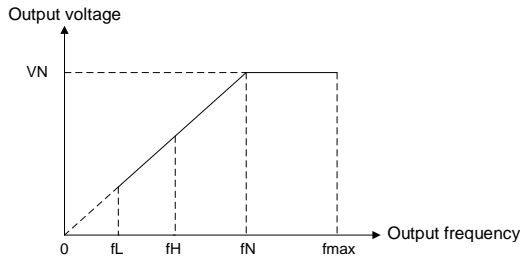

Fig. 6-8
B0-09 upper limit frequency is the user-defined maximum allowable running frequency and represented by  $f_H$  in Fig. 6-8.
B0-10 lower limit frequency is user-defined minimum allowable running frequency and marked with  $f_L$  in Fig. 6-8.
In Fig. 6-8,  $f_N$  represents rated frequency of motor while  $V_N$  means the rated voltage of motor.
- The rank relation between maximum frequency, upper limit frequency and lower limit frequency is shown as Fig. 6-8.